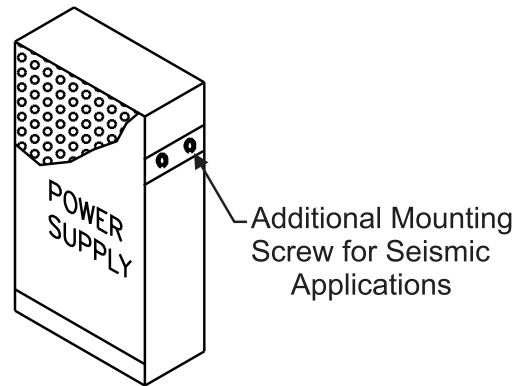
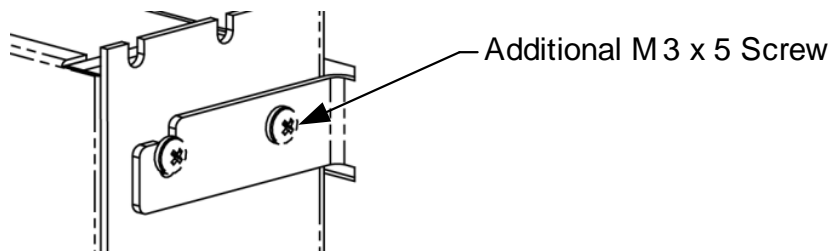

Figure J-3. Power Supply Unit Additional Screw Hole Location
Figure J-4. Power Supply Unit Shown Inside Retention Bracket On Control Unit Enclosure
2. Install an additional M3 x 5 screw (supplied in the hardware kit, P/N 76-800000-009) as shown in Figure J-3 and Figure J-4.
2. Install an additional M3 x 5 screw (supplied in the hardware kit, P/N 76-800000-009) for each power supply, as shown in Figure J-3 and Figure J-4.